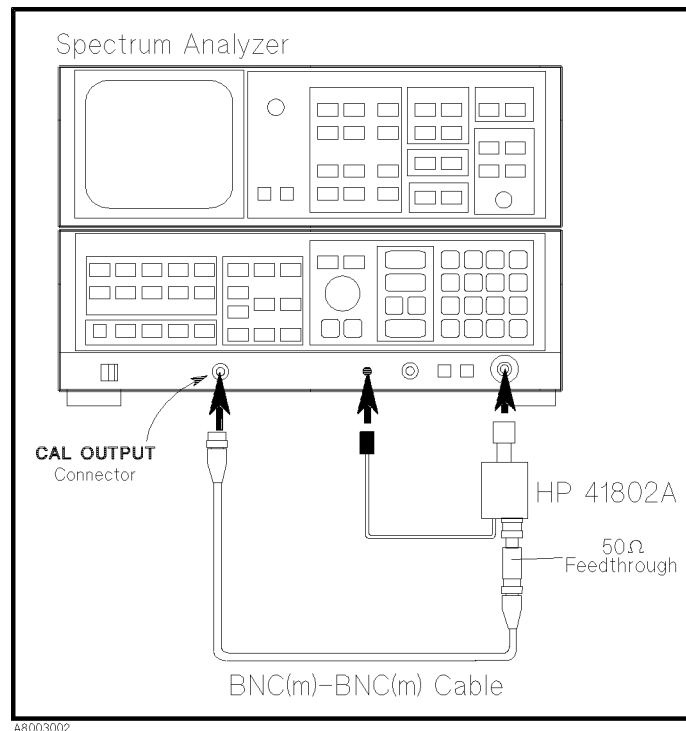

Figure 3-3. Operating Check Setup Using Spectrum Analyzer
1. Connect the equipment as shown in Figure 3-3. Note that the probe power plug must be connected before the HP 41802A's N-type connector.